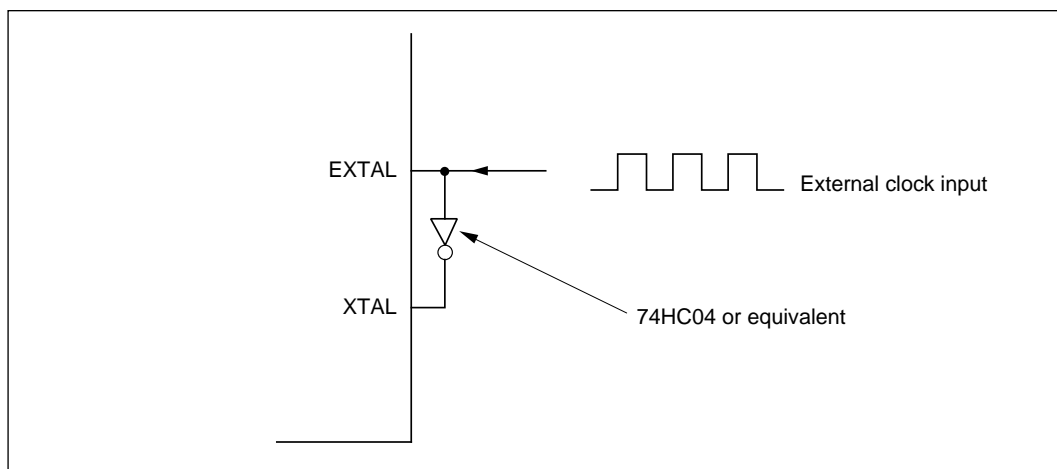

Figure 9-6 External Clock Input (Example)
(1) Circuit Configuration: An external clock signal can be input at the EXTAL pin as shown in the example in figure 9-6. A reverse-phase clock should be input at the XTAL pin.
When the circuit configuration in figure 9-6 is used, the external clock should be held high in standby mode.